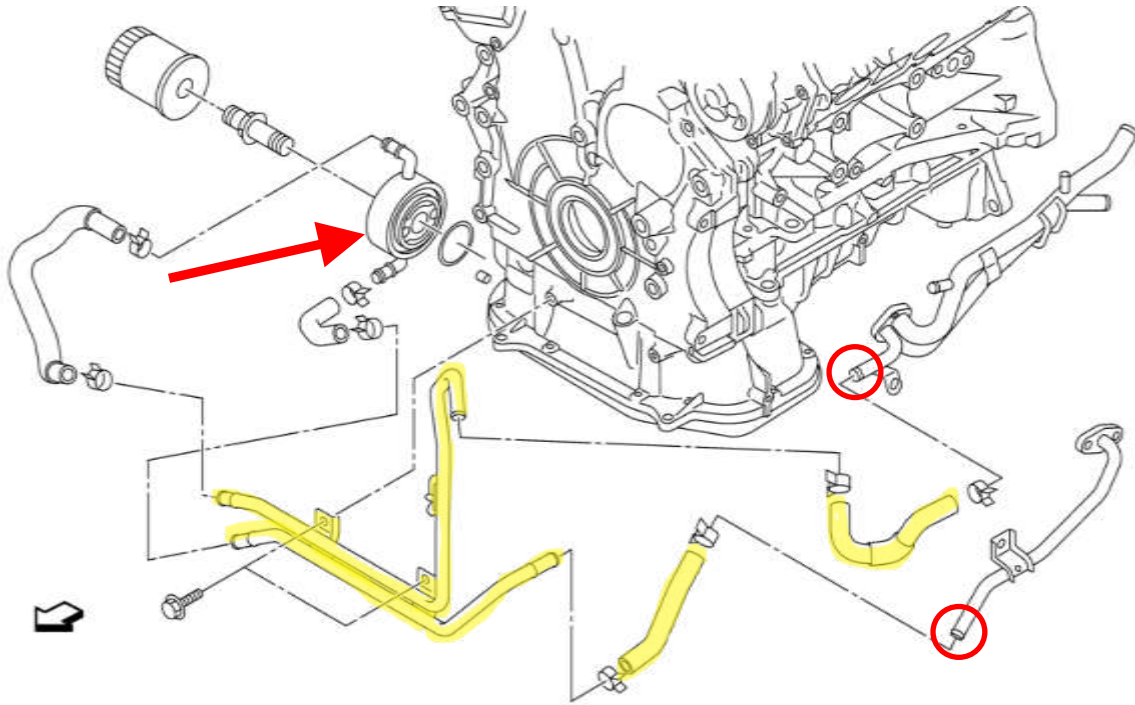

Figure 9
37. The factory oil cooler lines on 2012+ Late Style cars (highlighted below) will need to be removed as they will interfere with the supercharger components. If you have not already removed the OEM oil cooler/warmer (where the oil filter attaches and shown with arrow below) when installing an engine oil cooler, remove it and the accompanying components. Also remove the bolts and the highlighted lines below. If you have a 2011 or earlier car, skip to *Step 39. Figure 9.*
38. If the Oil Cooler Lines were removed in *Step 37*, use the (3) three provided 1/2" silicone caps (#13, #33) to cap the circled hardline ports off and secure with the OE clamps. *Figure 9.*